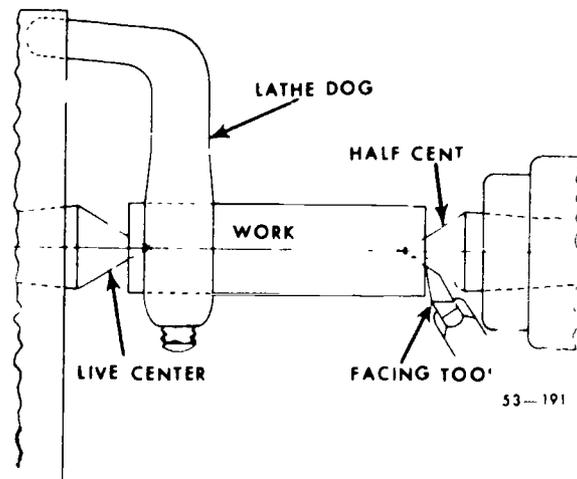

Figure 56. Facing work between centers
c. *Half centers* are similar to male centers, except that a portion of the point is ground away. They are used only for facing work held between centers, as shown in figure 56.
4-6. *Facing work mounted between centers.* Work that has been center drilled may be faced between centers—use a half center, which allows the point of the tool to enter the center hole to support the tailstock end of the work, as shown in figure 56. The end of the tool must be ground to a point with a very small radius to provide clearance. The tool must be held in a straight or left-hand tool holder. Use fine feeds and light cuts to prevent breaking the tip of the tool. Be sure that the tool will move from the center hole toward the outer surface before you engage the power feed. Replace the half center with a standard male center as soon as you complete the facing operation. The half center does not provide enough support for general machining operations.